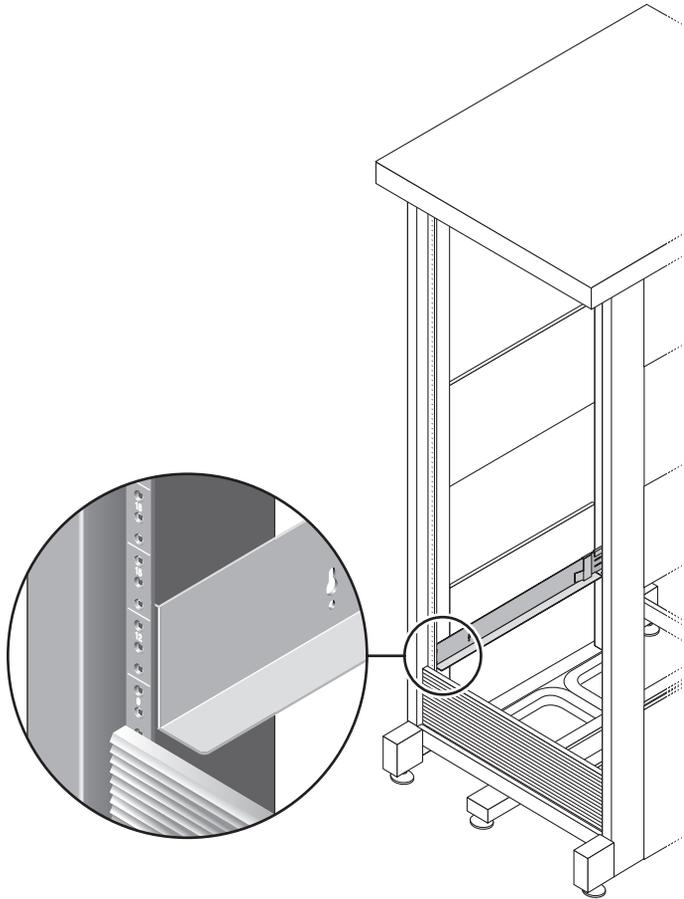

FIGURE 2-8 Aligning the Left Rail With the Rack-Unit Marks on the Front of the Sun Rack Cabinet
2. Align the front of the left rail with the rack-unit marks on the front of the cabinet (FIGURE 2-8). Repeat for the right rail.